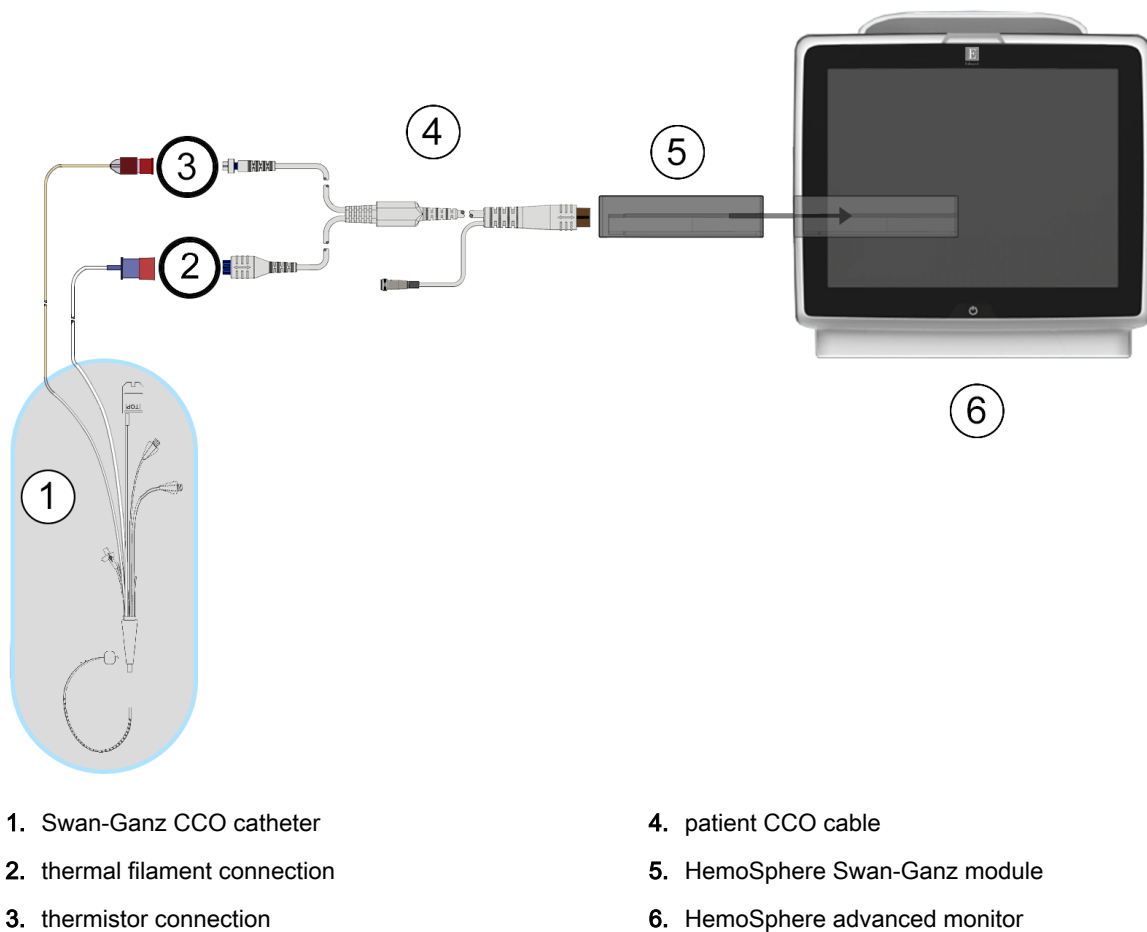

Figure 9-4: CO connection overview
2. Attach the catheter end of the patient cable to the thermistor and thermal filament connectors on the Swan-Ganz CCO catheter. These connections are emphasized as numbers (2) and (3) in Figure 9-4 on page 162.